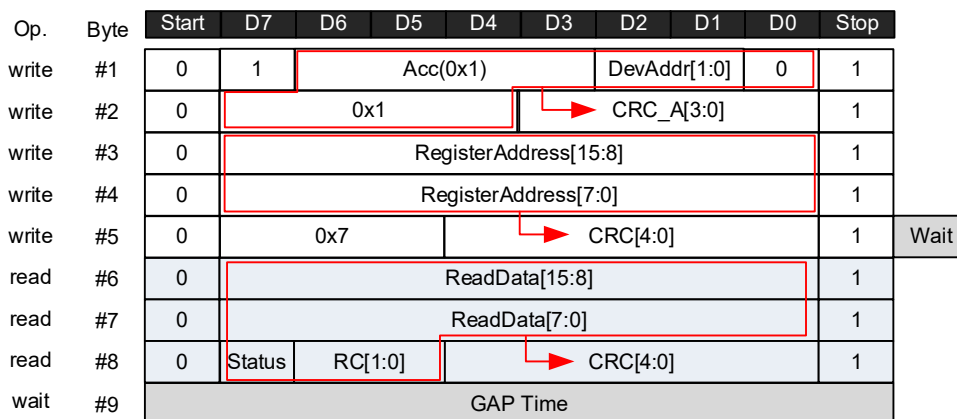

Figure 46. Register read mode frame
- 16-bit register read (Figure 46)
The Read Frame structure can be seen Figure 46 where: